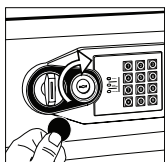

Figure 1
1. Remove override access lock cover by gently pressing on the right edge, rotating clockwise to the right and lifting away from key lock (Figure 1).